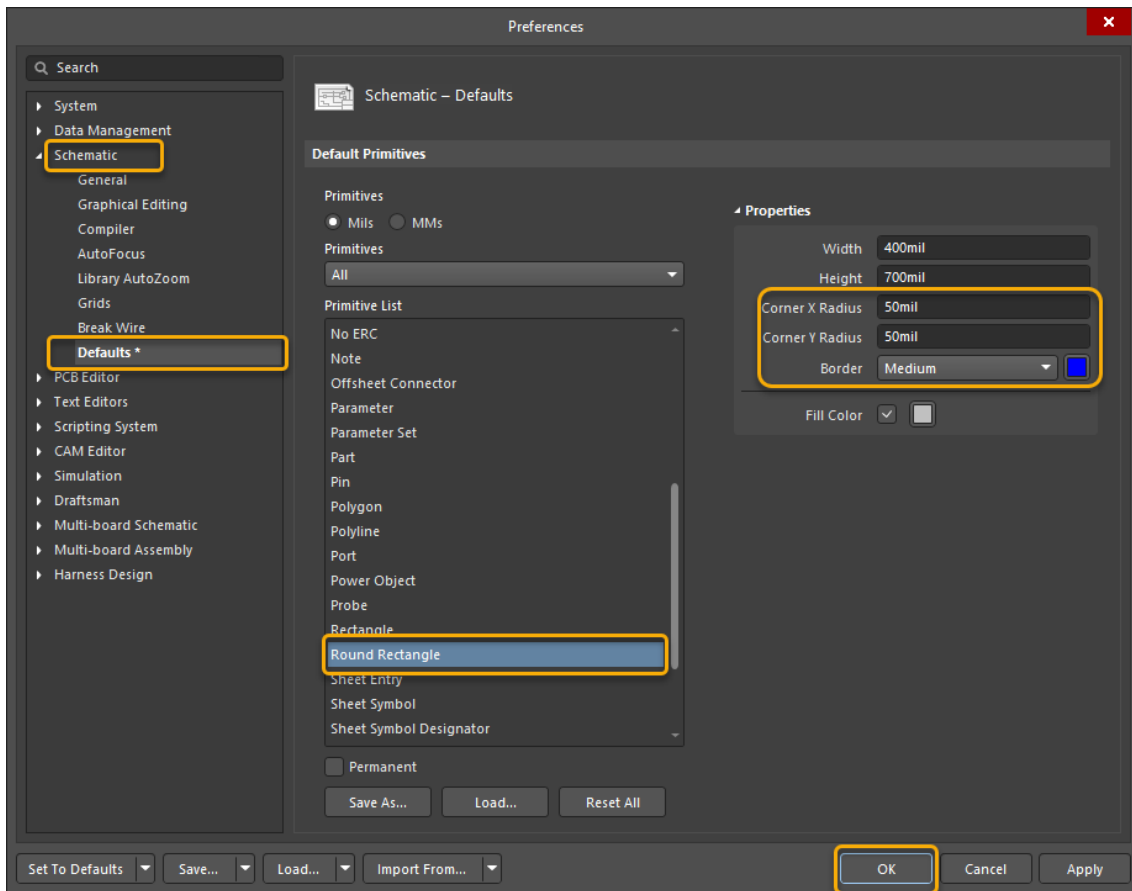

Figure 19. Rounded Rectangle Properties
27. Go to  *Preferences*, under the *Schematic* branch, and go to the *Defaults* page. Select the object *Round Rectangle* from the *Primitive* list and change both the *Corner X Radius* and *Corner Y Radius* to 50mil. See Figure 19.